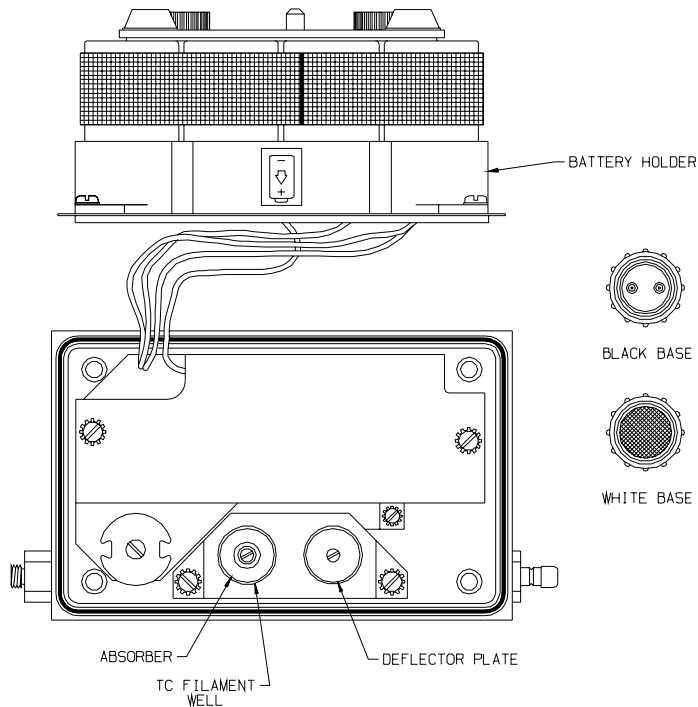

Figure 3-3. Location of Parts in Filament Wells
9. Loosen the screw holding the absorber (bowl-shaped part) in the TC filament well (FIGURE 3-3); remove absorber and screw.
13. Loosen the screw holding the deflector plate (disc-shaped) in the catalytic filament well (FIGURE 3-3); remove the deflector and screw.